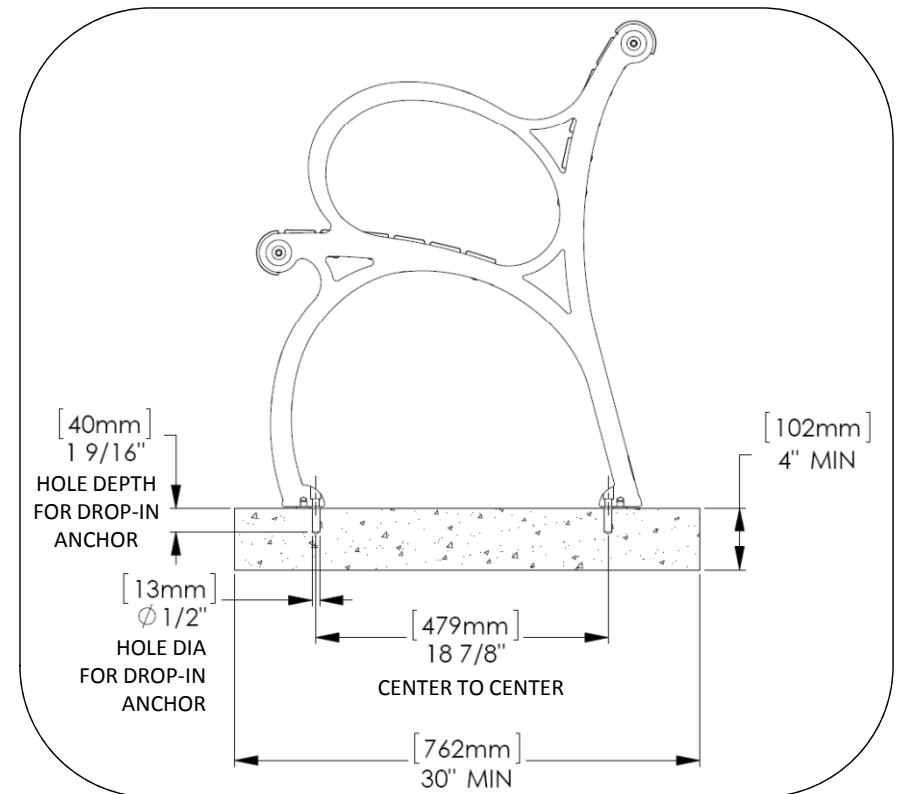

Fig. 2 – Anchor hole details for drop-in anchors
2. Move bench and finish marking the holes for the back legs, see Fig. 2. Drill holes according to Fig. 2. Clear holes of debris. Install drop-in anchors. Drop-in should sit flush with grade. Set anchor with setting tool. If top of drop-in anchor sits below grade, a longer screw may be required.